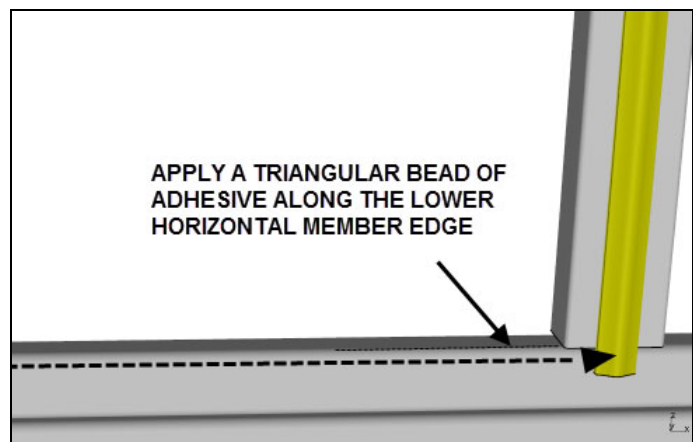

FIGURE 9
11. Apply a **continuous** triangular bead of adhesive on the lower horizontal member (FIGURE 9).